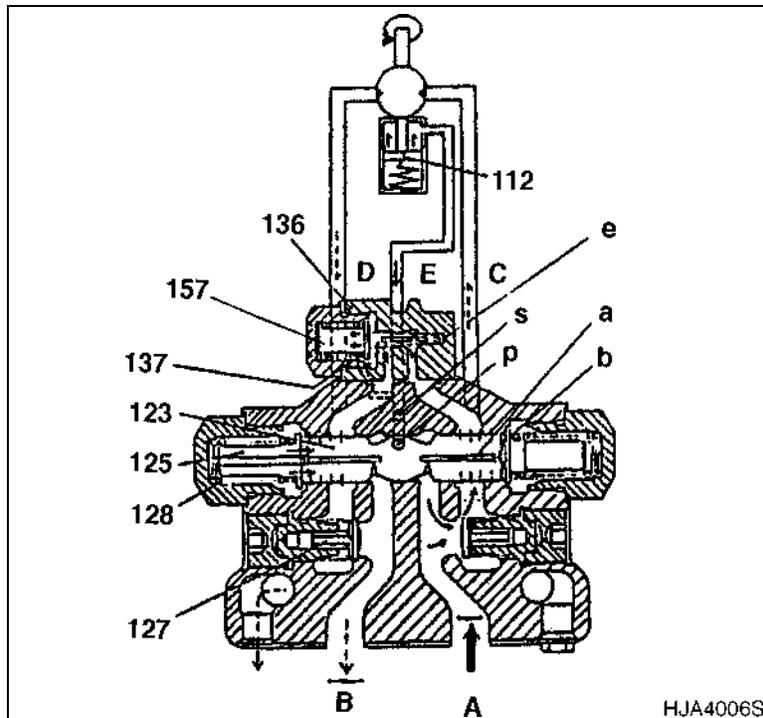

Figure 4
- Bolt up two halves of motor casing (301 and 303, Figure 4). Be careful not to lose or damage O-ring. Tighten four 20 mm socket head bolts using a progressive, even rotation. Make sure that all brake springs are fully seated and that valve casing inlet and output ports are correctly matched.